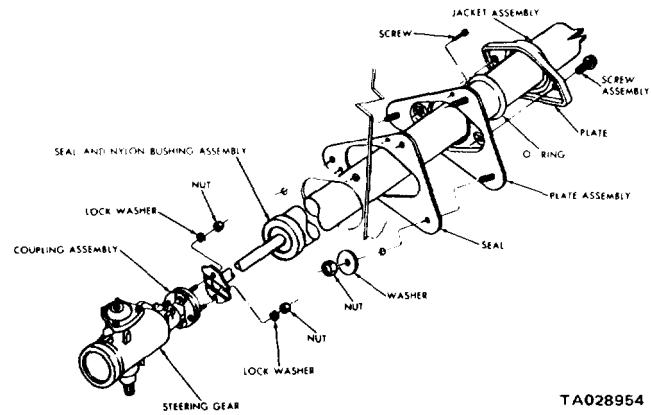

Figure 7-15. Steering Column and Gear Assembly.
(1) Remove the two wormshaft-to-column coupling bolts (figure 7-15).
(2) Remove the steering arm from the steering gear.
(3) Remove the steering gear-to-frame bolts and remove the gear from the vehicle.
The steering column shaft is connected to the steering gear wormshaft with a flexible coupling to absorb road shock and vibration. A rubber and fabric type coupling is used on 4X2 models (figure 7-15). The 4X4 models have two couplings between the steering column shaft and steering gear: a fabric and rubber coupling at the steering gear, and a “pot type” coupling at the column shaft.
(1) Disconnect the negative (ground) terminal at the battery.
(2) Disconnect the shift linkage from the lower end of the steering column.
(3) Remove the two nuts and lockwashers from the flexible coupling (figure 7-15). On 4X4 models, remove the pot coupling roll pin.
(4) Disconnect the electrical wiring connector at the steering column jacket.
(5) Remove the horn pad. Disconnect the horn wire and remove the horn switch.
(6) Remove the steering wheel retaining nut and washer. Using an appropriate puller, remove the steering wheel.
(7) Loosen the “O” ring retaining plate screws and remove the support plate screws (figure 7-15).
(8) Remove the trim panel and the nuts or bolts attaching the steering column clamp to the instrument panel support.
(9) Lift the column out through the cab.